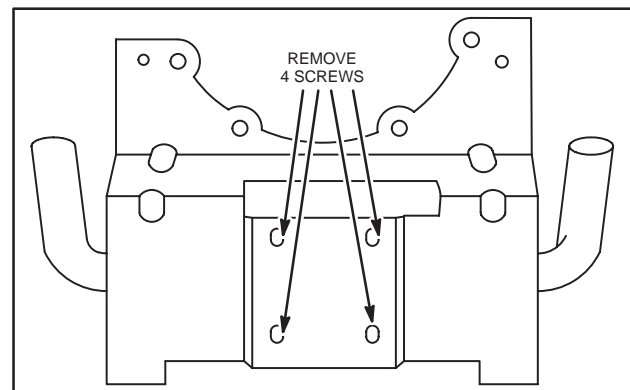

Fig. 11 – Remove Muffler
4. Remove four (4) hex head cap screws, Fig. 11.